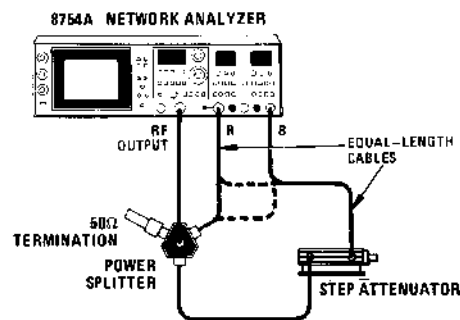

Figure 4-19. Phase Dynamic Accuracy Test Setup
1. Connect equipment as shown in Figure 4-19 with step attenuator set at 20 dB.